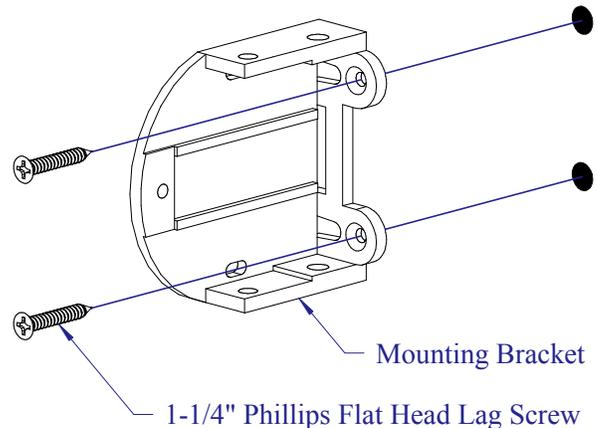

Fig. 1-2
- Mount the mounting brackets at the marked locations using (4) 1-1/4" phillips head lag screws, (2) per bracket (see Fig. 1-2).